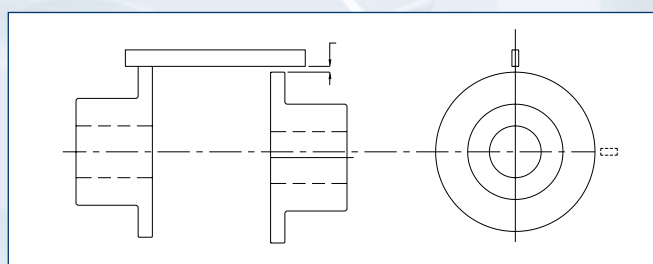
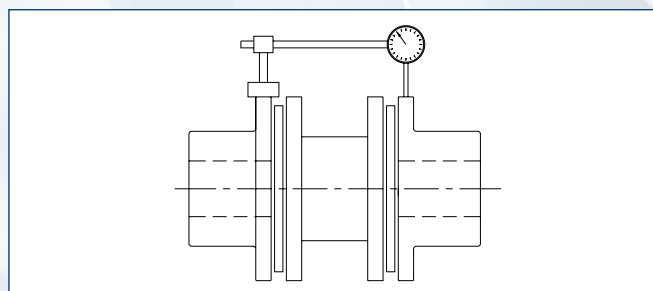

Fig. 6
Fig. 7
1. Initial parallel alignment can be checked by using a straight-edge across the hub flanges (per Fig. 6, page 58) to measure the approx. distance (r) as shown in Table 4. Use a more precise method by using a dial indicator the parallel off-set is measured in at least two places 90 degrees apart while rotating one hub. This is shown in Fig. 7, page 58.